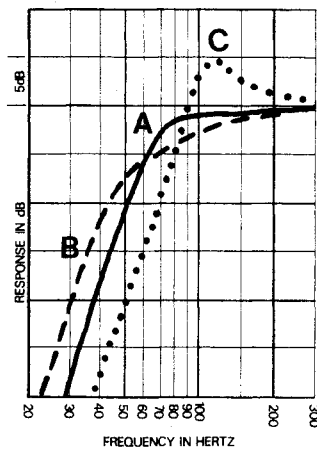

FIGURE 1
Figure 1 shows the computer generated curves depicting an Electro-Voice FORCE 10 speaker in a 1.4 ft³ enclosure. Curve A represents the predicted bass response with the enclosure tuned to the free air resonance of the speaker (65 Hz) and would be considered a classic B⁴ (Thiele's Alignment No. 5)¹ enclosure.
Our third curve (C) in Figure 1 shows the effect of tuning the enclosure 1/2 octave above the free air resonance of 65 Hz or to 98 Hz.